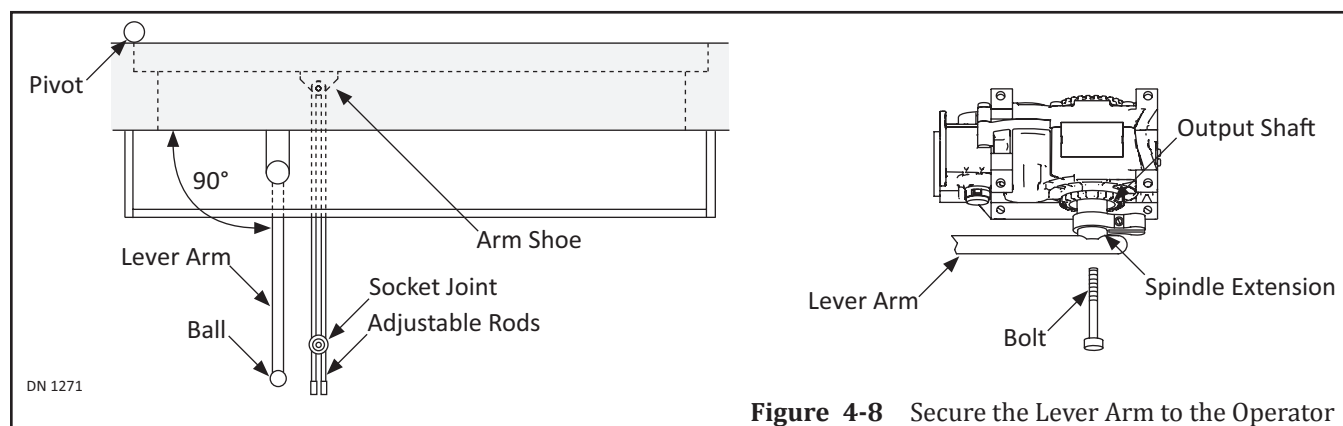

Figure 4-8 Secure the Lever Arm to the Operator
3. Position the Lever Arm as perpendicular as possible (90 degrees) with regard to the Door Panel. Please see Figure 4-8.